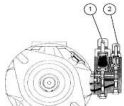

Fig 2
- 1 - Wind the max compensator (1 - Fig 2) out fully and min comp(2 - Fig 2) in fully. Wind max relief 211(fig 6) in fully. Wind the boom relief (fig 4) and Max Boom LS (Fig 3) in fully. Wind boom pressure reducer 210 (Fig 5) in all the way.